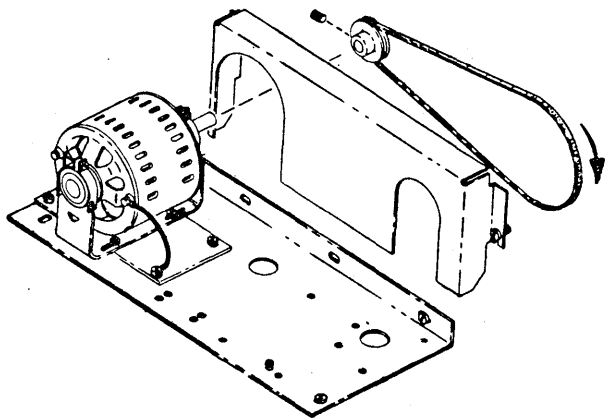

Figure 4-4. CRCB Drive Motor
2. CB cam index rotation is clockwise as seen in Figure 4-4.